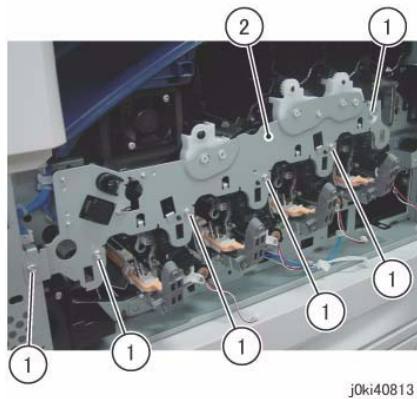

Figure 9 Remove the Plate
12. Remove the Plate. (Figure 9)